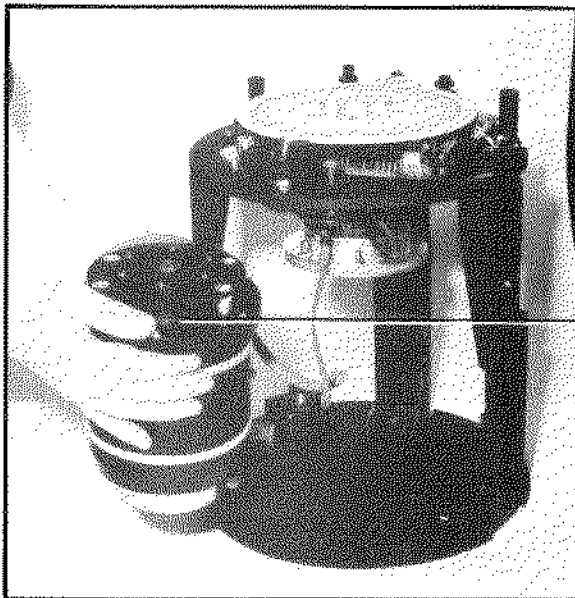

Fig. 3-6:
- Take hold of the outer sphere end carefully take it out of the gyro compass (see Fig. 3-6).